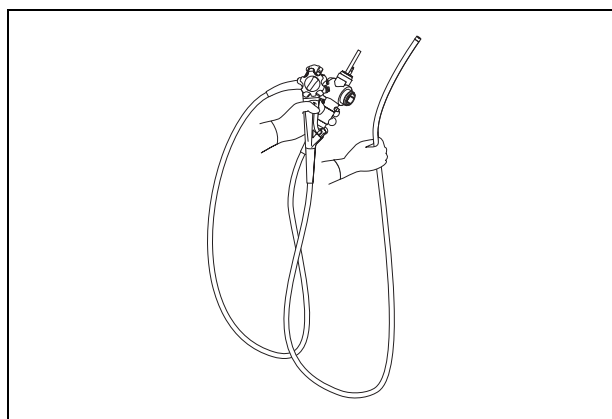

Figure 4.7
3. When carrying the endoscope by hand, loop the universal cord, hold the endoscope connector together with the control section in one hand and hold the distal end of the insertion tube securely, but gently without squeezing, in the other hand (see Figure 4.7).